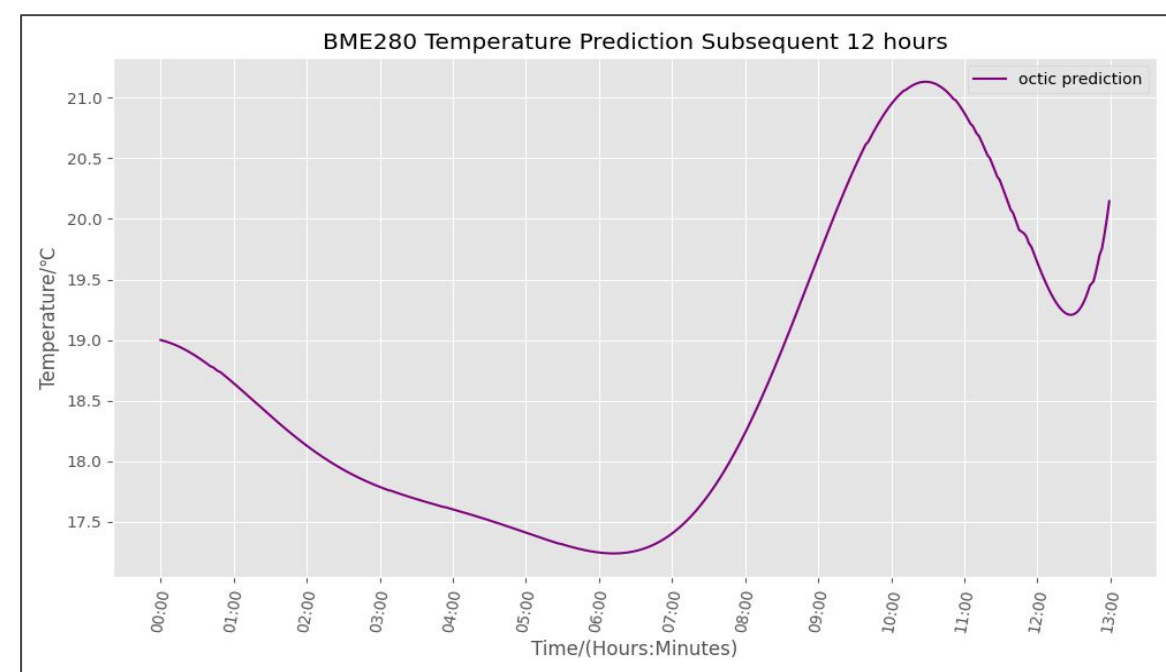
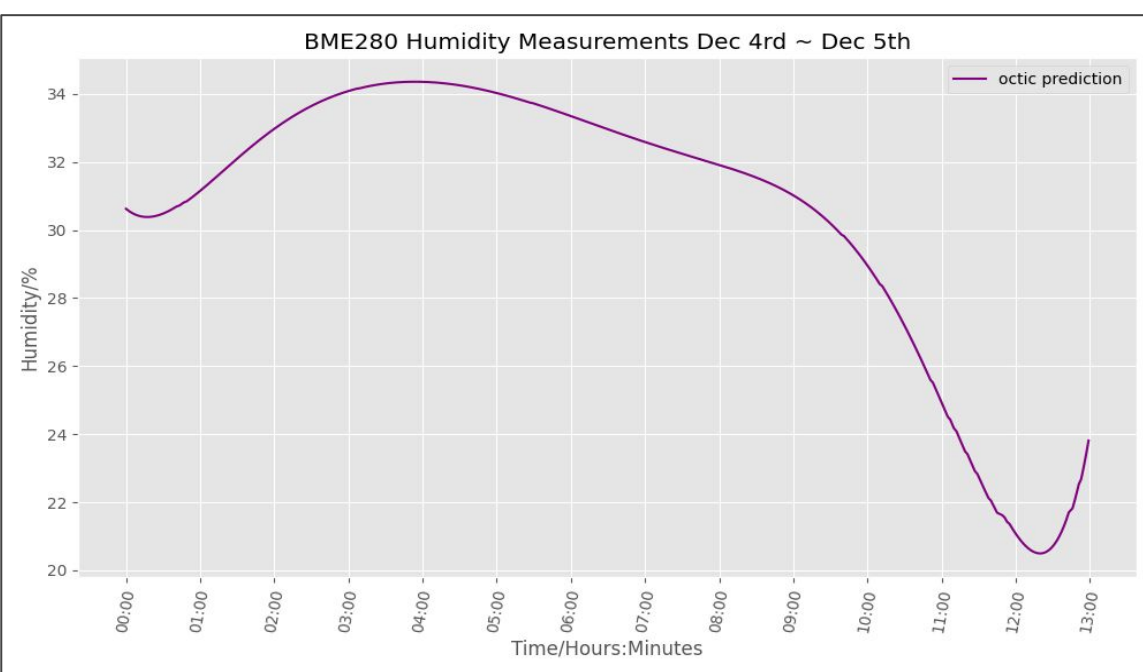

fig 5.1
fig 5.2
5. Orchestrate alterations 2 and 3 regularly based on the data and prediction of the Weather Station system. (e.g. fig 5.1, fig 5.2)